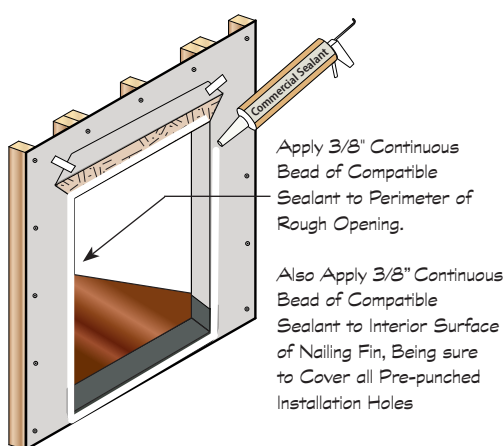

FIGURE 10
10. Apply a 3/8" continuous bead of silicone caulking to the sheathing or house wrap making sure the bead is no more than 1/4" from the edge of the rough opening, so that it is covered by the nailing fin when the door is installed (Figure 10).